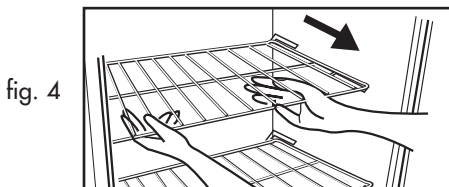

fig. 4
Freezer Interior Shelves (fig. 4)
1. Gently tilt the shelf up and slide it towards you until the shelf has been completely removed. (see fig. 4)